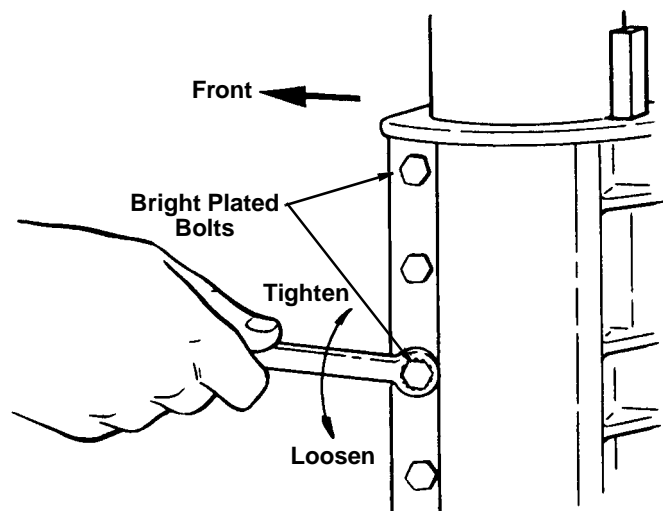

Fig. 2
Using the closed end of a box wrench, tighten all of the 5/16-18 black screw heads on the column support casting 1/16th to 1/8th of a turn. Tighten the (2) 5/16-18 silver screw heads slightly more than the black ones to achieve a close fit to the column tube (Fig. 2). (A 1/4" drive ratchet with a six point socket may be needed to get enough torque on bolts.)